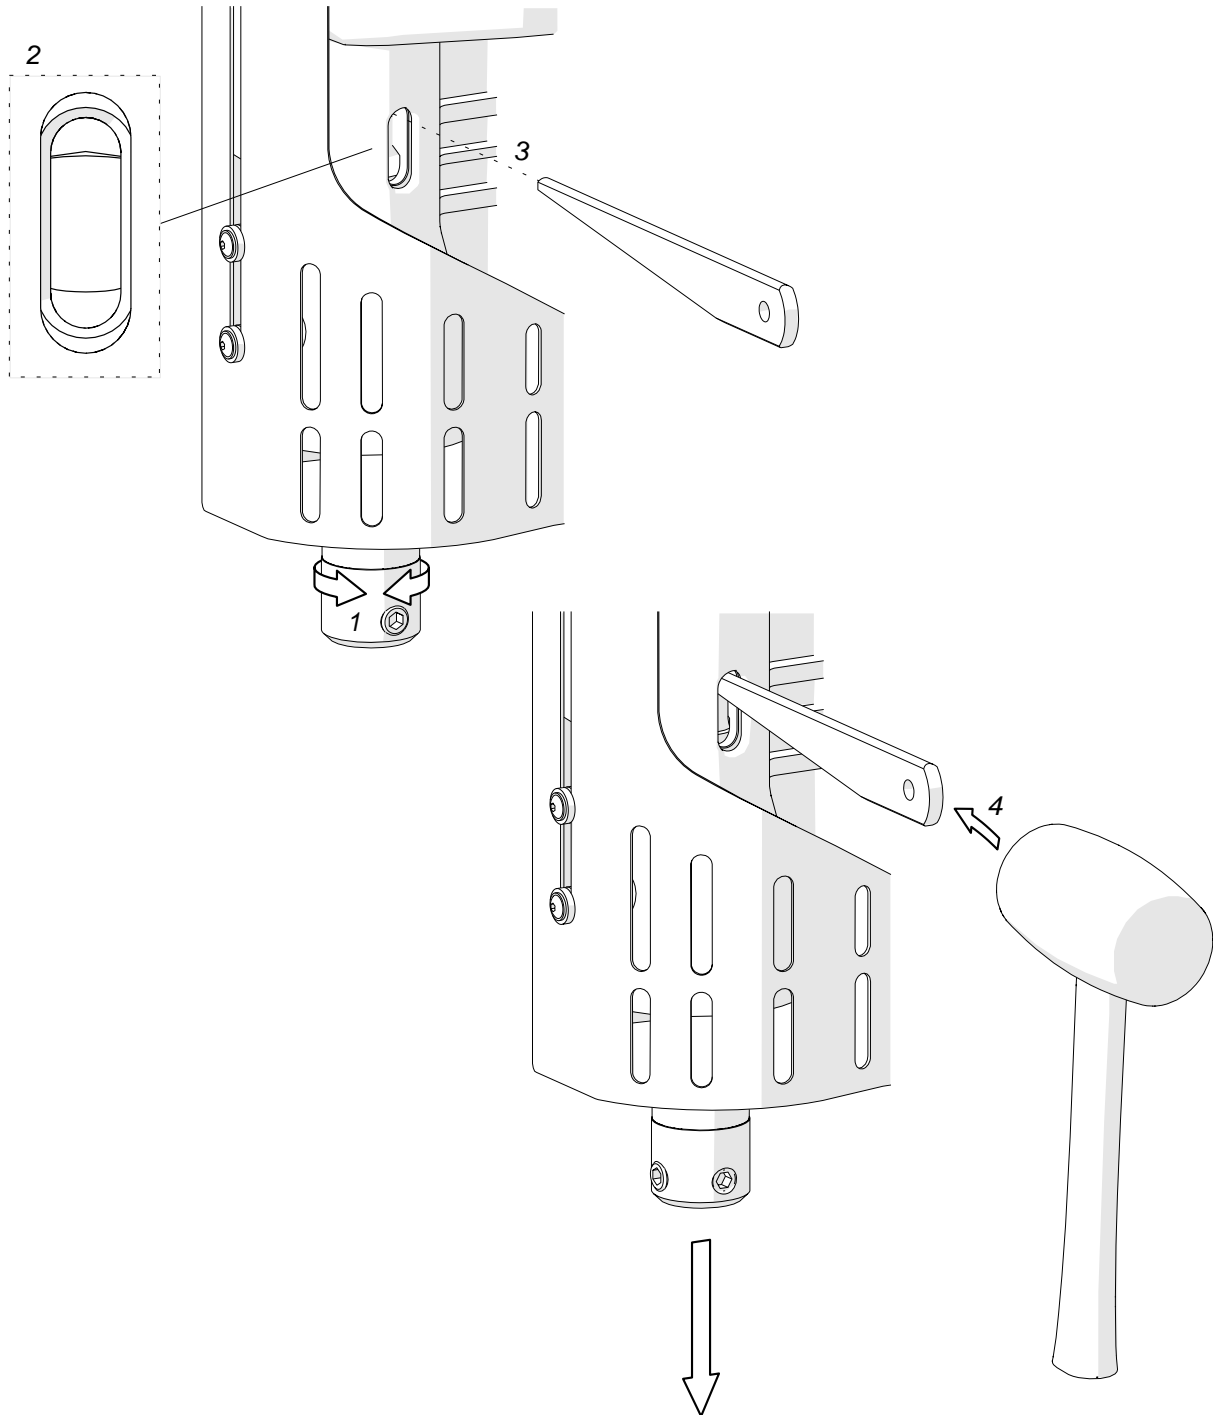

Fig. 2. Removing the arbor or the drill bit
To remove the arbor (drill bit), raise the motor, and then rotate the spindle (1, Fig. 2) in such a way to align the openings in the spindle and gearbox (2). Next, insert the MT3 drift (3) into the opening above the arbor (drill bit), hold the carrying handle with one hand, and then tap the drift using a mallet (4).